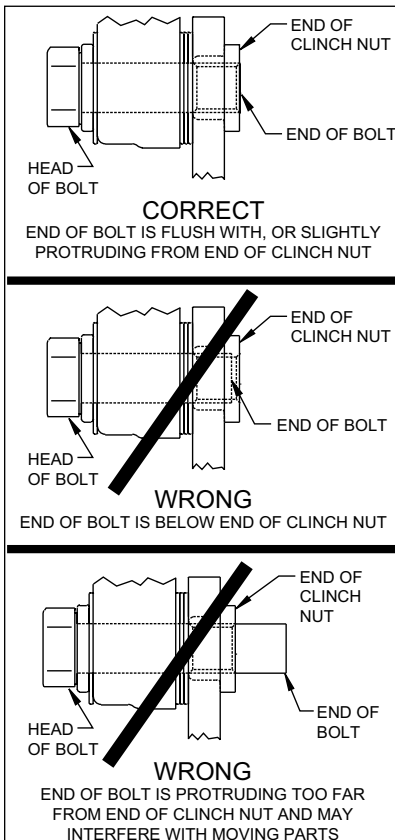

Figure 3.
CAUTION: All mounting bolts must fully engage clinch nuts. Be sure to check that all bolts are either flush or protruding through flanged side of clinch nut after shimming, Figure 3.
NOTE: The end of the bolt must be flush with or slightly protruding from the head of the clinch nut. See Figure 3. Place spare shims (20) between washer and caliper mounting ear to achieve the proper mounting fastener configuration. Always use the same amount of shims on both the top and bottom caliper mounting bolts (18). Finger tighten and recheck alignment. If everything is properly aligned, apply red *Loctite® 271* to bracket bolt threads (2) and torque to 42 ft-lb as well as bracket bolt threads (4) and torque to 42 ft-lb. Once the caliper alignment and clinch nut engagement are correct, remove the mounting bolts and caliper.